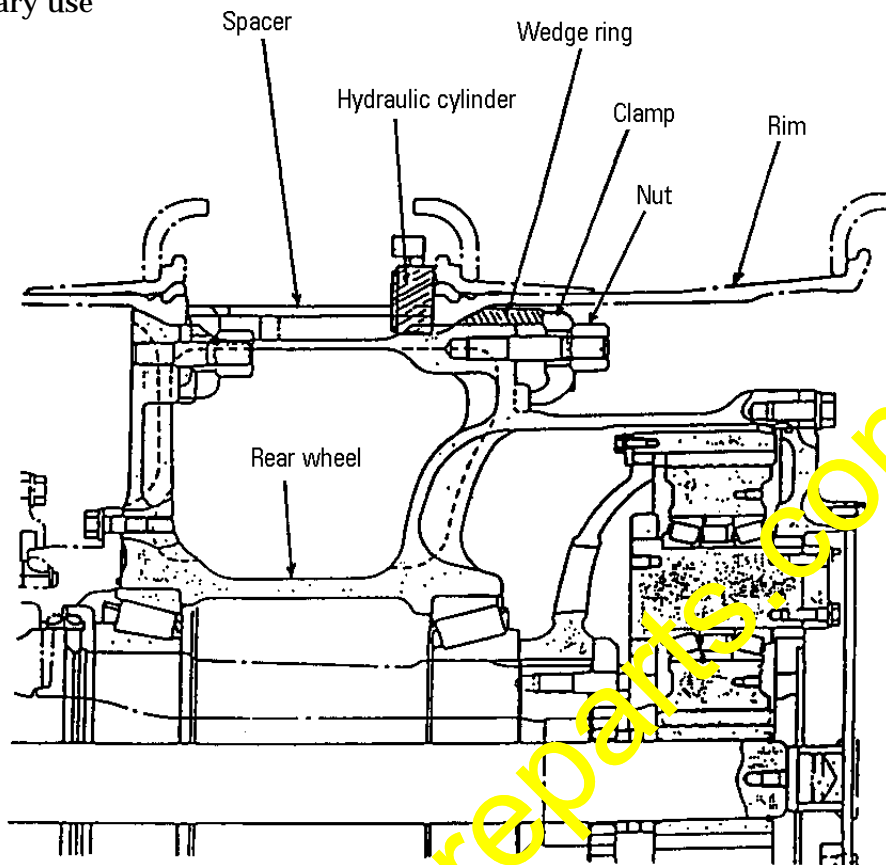
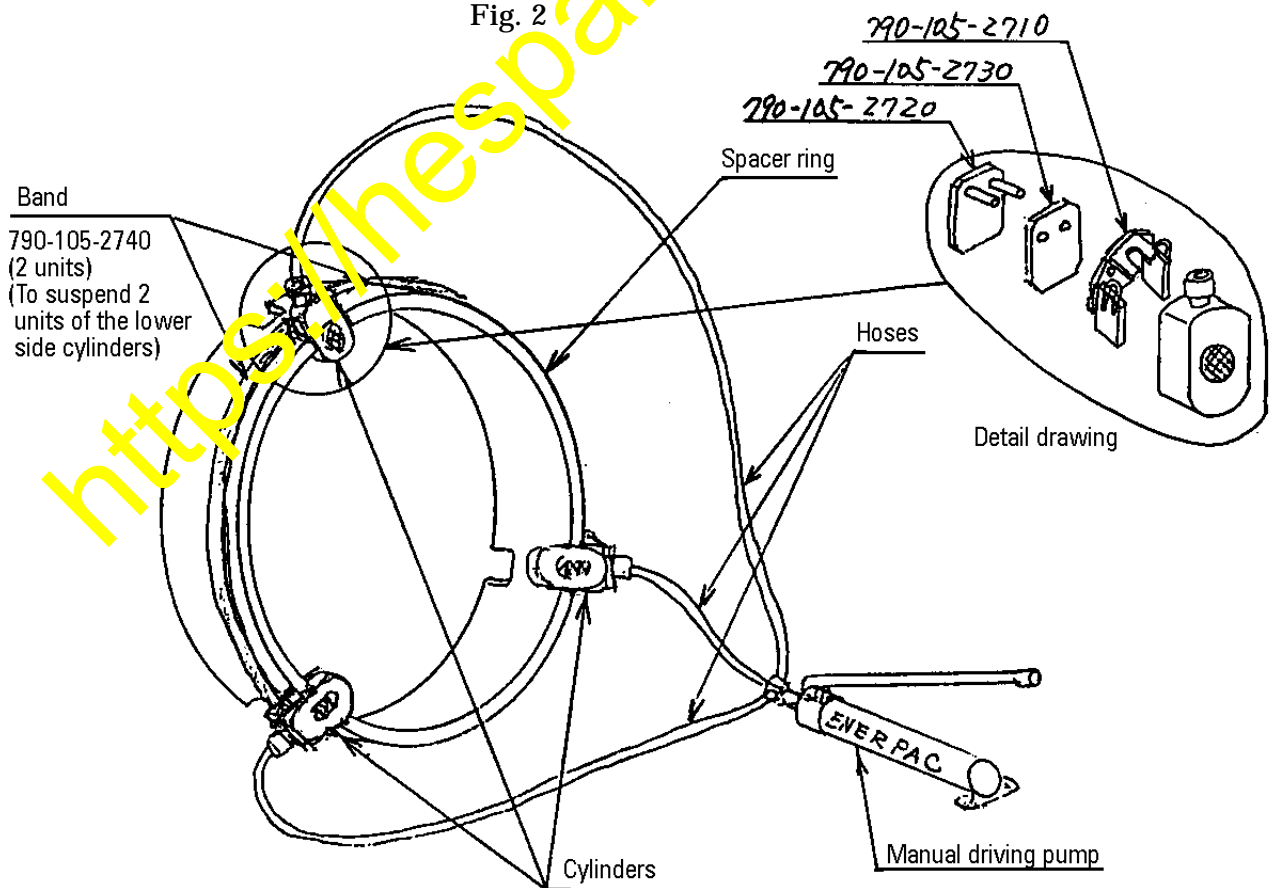

Fig. 2
Fig. 3
- 4) Hydraulic cylinder setting procedures are indicated in Fig. 2 and Fig. 3.